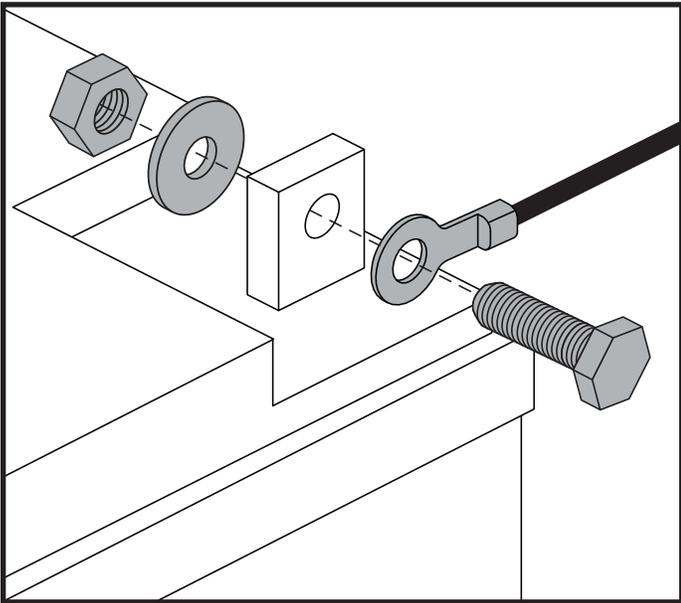

Figure 15. Battery Terminal Hardware - Configuration 1
4. Disconnect the battery cables from the battery terminals by sliding back the terminal boots and unscrewing the nut from the bolt. See figures 15 and 16.